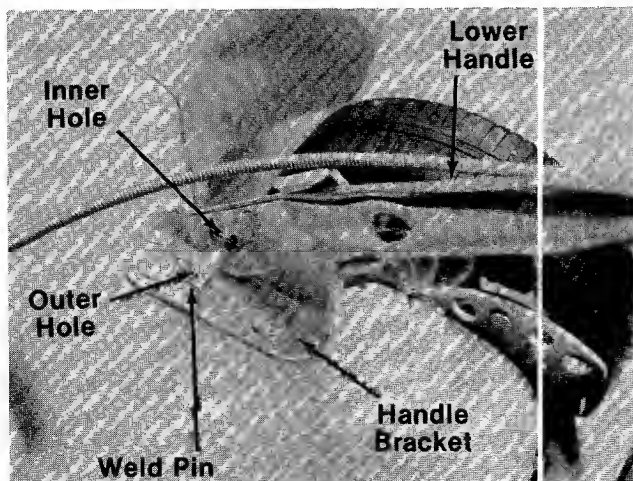

FIGURE 2.
- A (2) Hand Knobs (Folding Handle Only)
- B (2) Curved Carriage Bolts
- C (2) Hairpin Cotters
- D (2) Cable Ties
- E (2) Lock Washers (Non-Folding Handle Only)
- F (2) Hex Nuts (Non-Folding Handle Only)
3. Place lower handle in position over weld pins in handle mount brackets on deck. Make certain the instruction label on the lower handle can be read from the operating position. Secure by placing two hairpin cotters (C) in inner hole on weld pins. See figure 2.